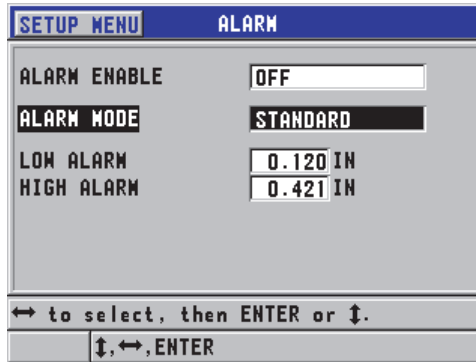

Figure 7-7 Setting up the STANDARD alarm
2. In the **ALARM** screen (see Figure 7-7 on page 145):